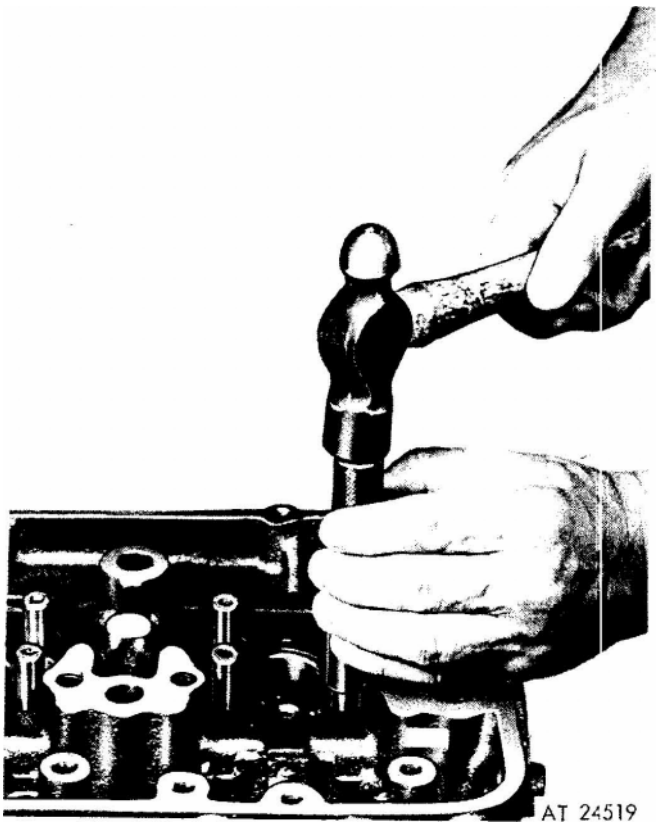

Figure 6. Installing exhaust valve guide.
2. Position the valve guide squarely in the bore in the cylinder head and tap the installing tool gently to start the guide in place (fig. 6). Then, drive the guide in until the tool contacts the cylinder head.